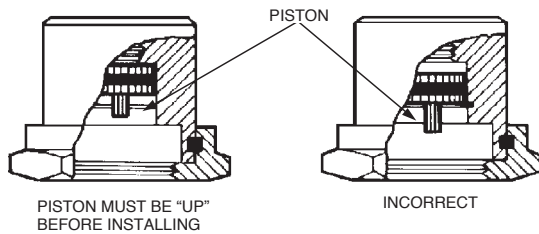

FIGURE 8-7
- Ensure that pneumatic valve actuator internal piston is in the full “UP” position by forcing the piston up, by hand or with a short length of 1/8 in. to 1/4 in. pipe. See Figure 8-7.